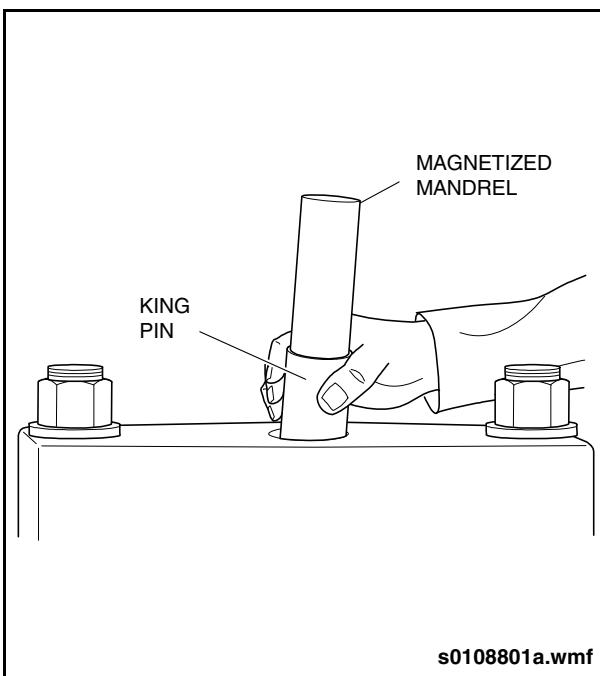

Fig. 1-27: King Pin Removal Tool
19. Lift king pin out through bore in press cross-beam using magnetized aligning punch. (Item 53 from special tools list). See "Fig. 1-27: King Pin Removal Tool" on page 25.